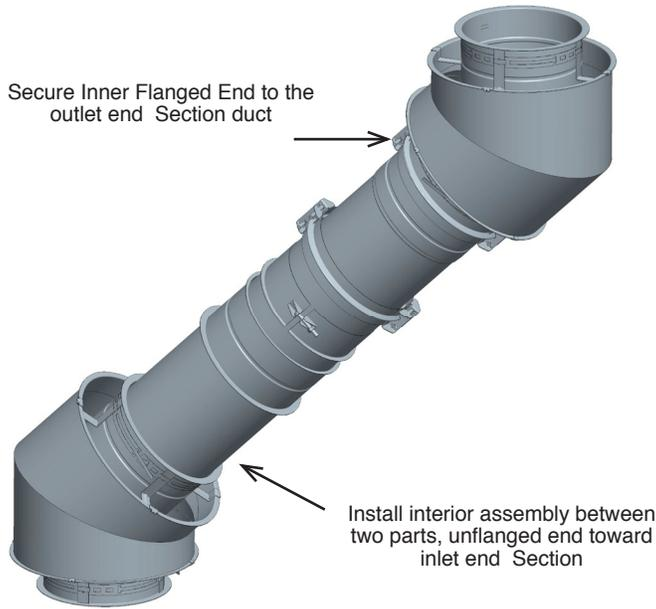

Figure 27 - Step 5-6 - Install the inner LV and secure the outlet end Flange
6. Assemble the outlet end sliding inner wall to the outlet end section as a regular section (See **JOINT ASSEMBLY** section). See **Figure 27**.